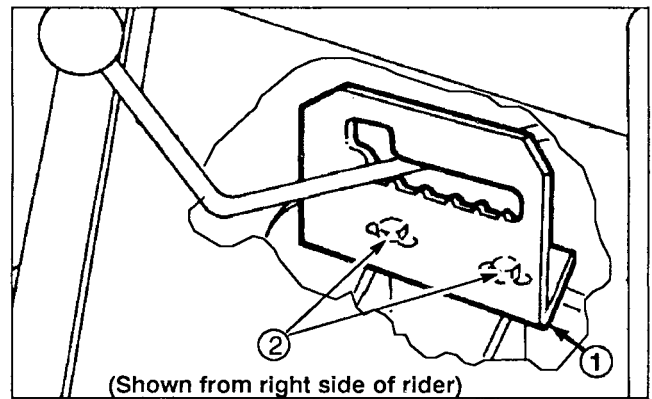

Figure 31
2. Loosen (2) capscrews mounting gear shift guide to transmission (Fig. 31).